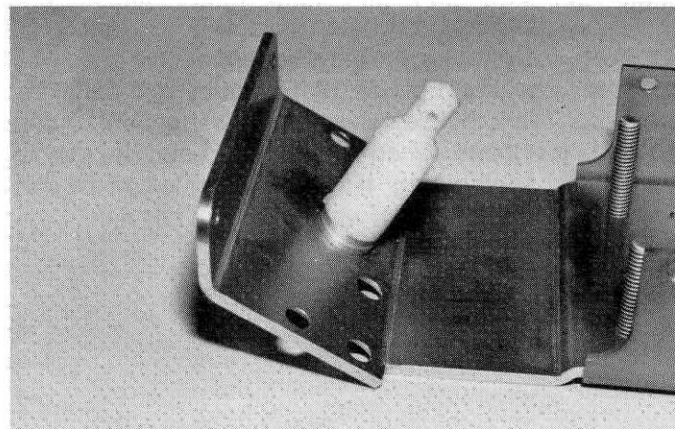

Fig. 4
□ **Fig. 4** Install the #6330 body mount as shown with body clip hole going left to right.